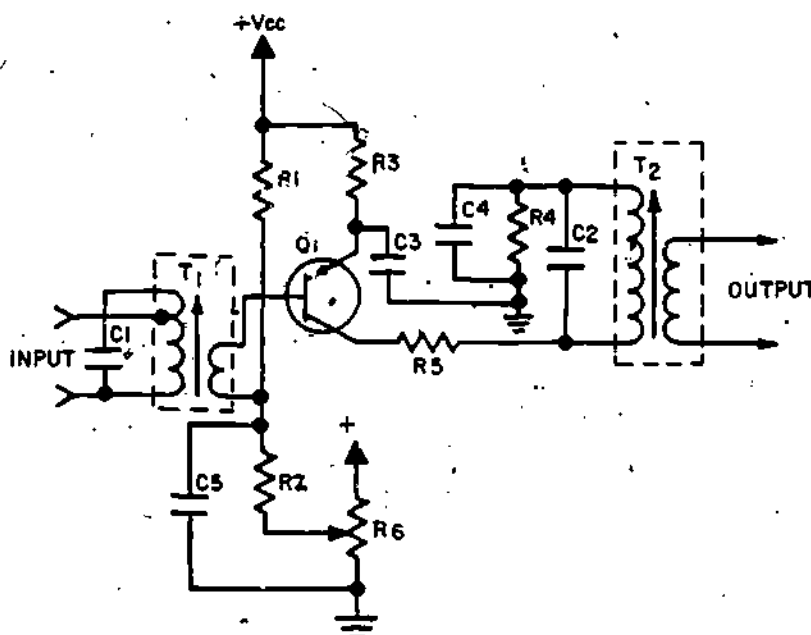
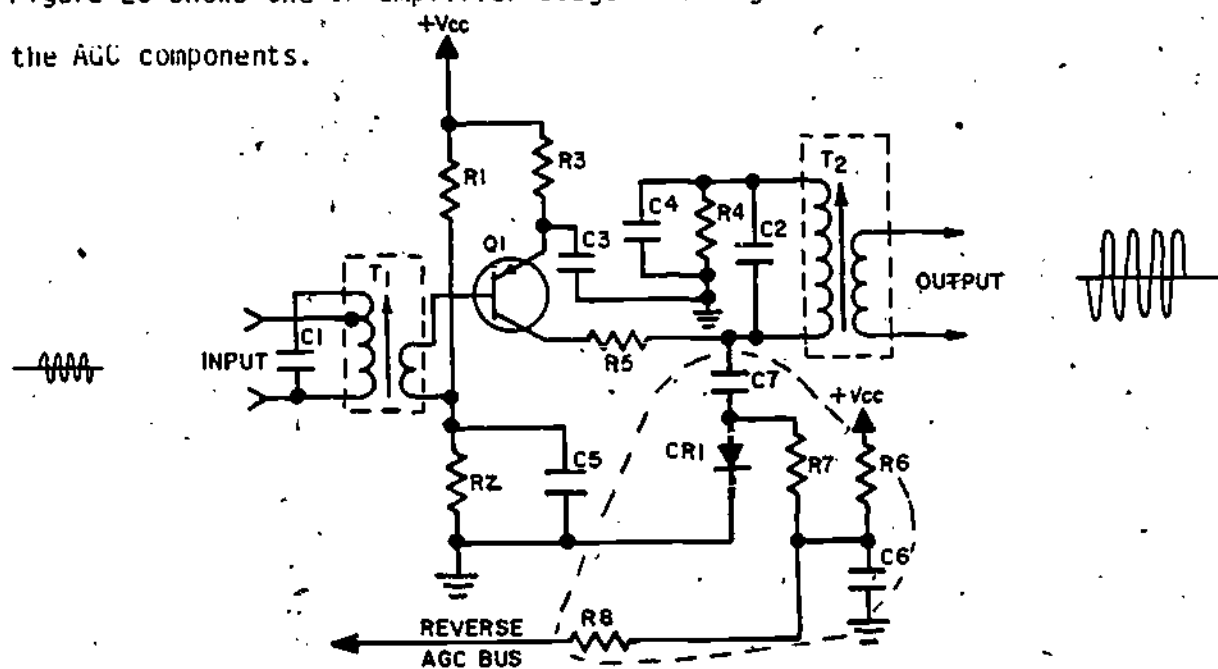

Figure 19
Figure 20
②1) Now that you know the principle for controlling transistor gain, let's apply your knowledge to the components in a typical IF amplifier circuit. Figure 19 shows the familiar IF amplifier stage from the NIDA trainer.
In Figure 19, manual operation of potentiometer R6 provides _____
Figure 20 shows the IF amplifier stage from Figure 19 with the addition of the AGC components.
In the figure, the additional components are located within the oval, and are labeled CR1, C6, C7, R6, R7, and R8. The AGC components provide an automatic reverse bias gain control over RF and IF amplifier stages which are previous to this stage. As the signal level within the stage in Figure 20 starts to overdrive the amplifier, a reduced positive AGC voltage is automatically fed back to limit the gain of previous stages. This will cause a reduction in the signal level input to this stage, and prevent overdriving. The AGC voltage in a receiver is usually tied to a common interconnecting line, sometimes called an AGC "bus". This AGC bus provides feedback from the AGC circuit to previous stages on the same bus.
In Figure 20, the _____ components provide a reduced bias voltage which is fed back to previous amplifier stages.